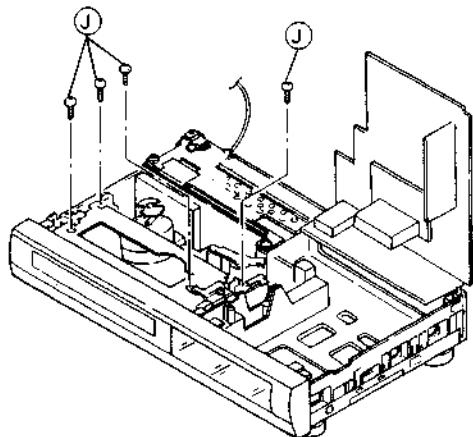

Fig. 1-1-5 Cassette housing(a)
2. Refer to Figs. 1-1-5 and 1-1-6.
- Take out 4 screws (J) that secure the cassette housing. Disengage 3 tabs (K) of the front panel and pull the front panel forward where it does not interfere with removing the cassette housing.